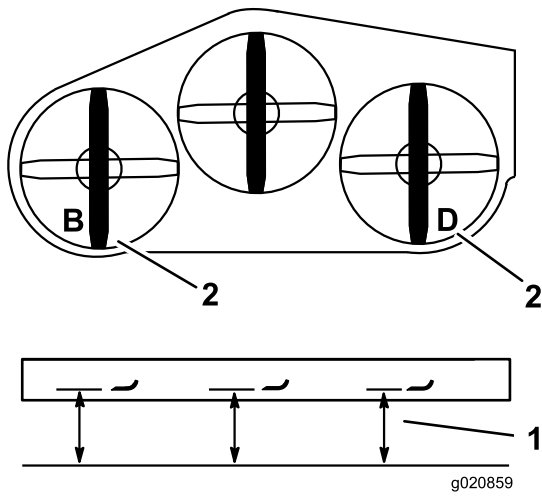

Figure 83
2. Measure the left blade at the **B** location, from a level surface to the cutting edge of the blade tip, and record this measurement (Figure 83).
3. Measure the right blade at the **D** location, from a level surface to the cutting edge of the blade tip, and record this measurement (Figure 83).
Note: The measurement at position **B** needs to be within 3 mm (1/8 inch) of the measurement at position **D** (Figure 83). If it is not correct, proceed to the following steps.